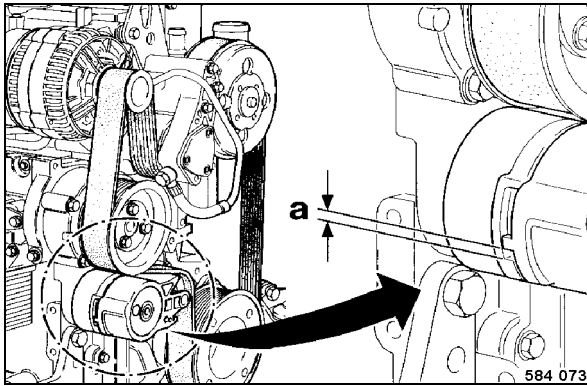

Fig. 154
- Check the distance between the tongue of the moveable tensioner arm and the fixed tensioner housing (Fig. 154).